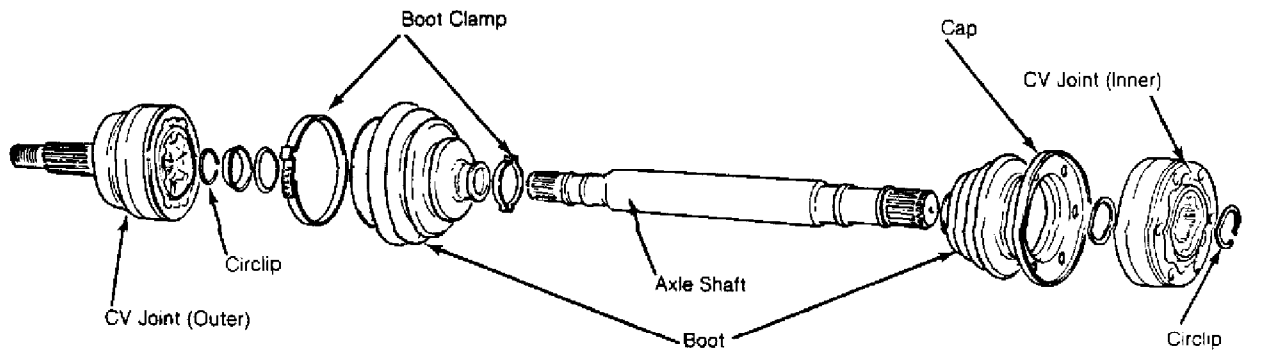

Fig. 1: Exploded View of Typical Volkswagen Axle Shaft Assembly
1) Remove hub cap. Loosen axle shaft nut. Raise and support vehicle. Remove axle nut and wheel. Remove Allen bolts connecting inner CV joint to transmission case flange. See Fig. 1.